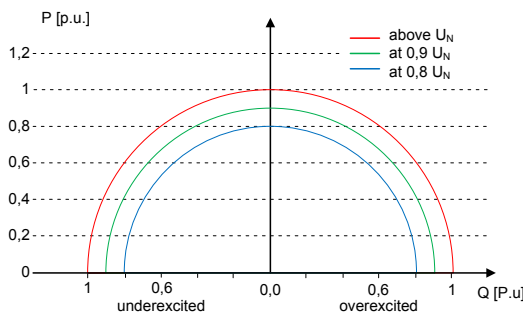
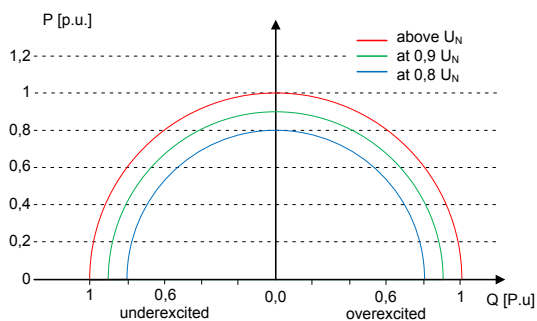

Fig. 56: P-Q operating range for bp 150 TL3 ($Q_{max}=S_{max}$)
Fig. 66: P-Q operating range for blueplanet 87.0TL3 ($Q_{max}=S_{max}$)
- Reactive power is prioritized in each method. The maximum possible active power that can be fed in is reduced in line with the P-Q operating range when a specific reactive power level is specified ([See figure 56] [▶ Page 67] - [See figure 66] [▶ Page 68]).